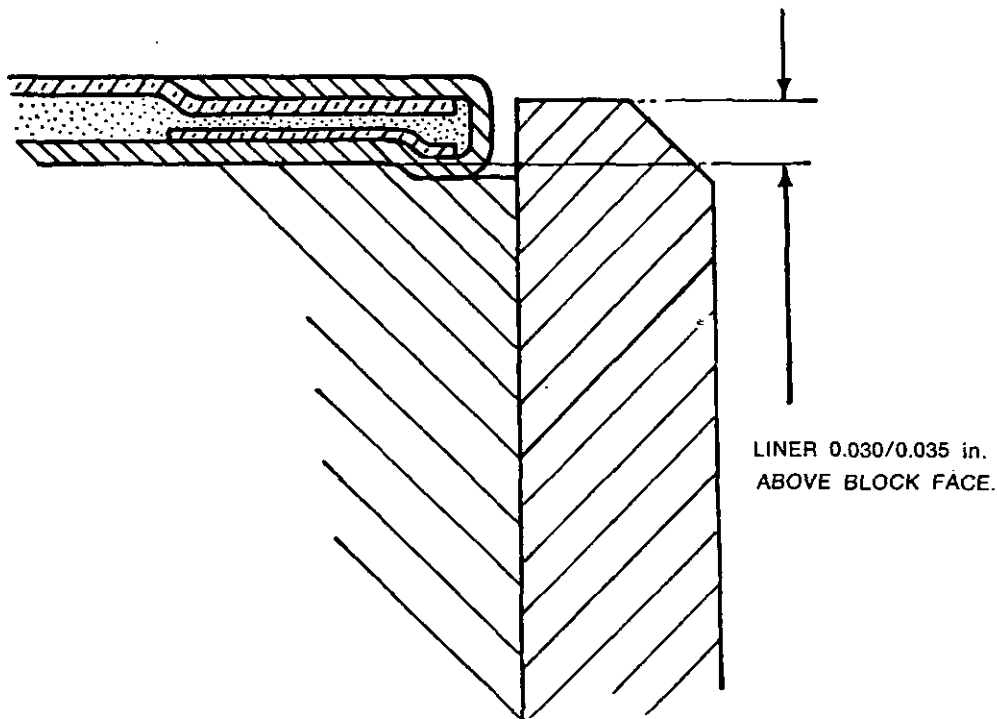

Fig. G.3.
4. With 6.354 engines lubricate the outside diameter of the liners with clean oil and press them in. When inserting new liners, the load should be released several times during the first inch, so as to allow the liner to centralise itself in the parent bore. The liner should be pressed in until 0.028/0.035 in (0,71/0,89 mm) of the liner is protruding above the cylinder block face (Fig. G.3). Shim washers or a solid stop washer, 0.028/0.035 in (0,71/0,89 mm) thick should be used to give the correct protrusion.